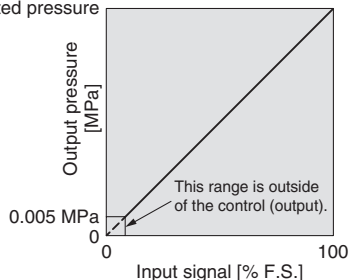

Fig. 1 Input/output characteristics chart
*1 Please refer to Fig. 1 for the relationship between set pressure and input. Because the max. set pressure differs for each pressure display, refer to page 58.